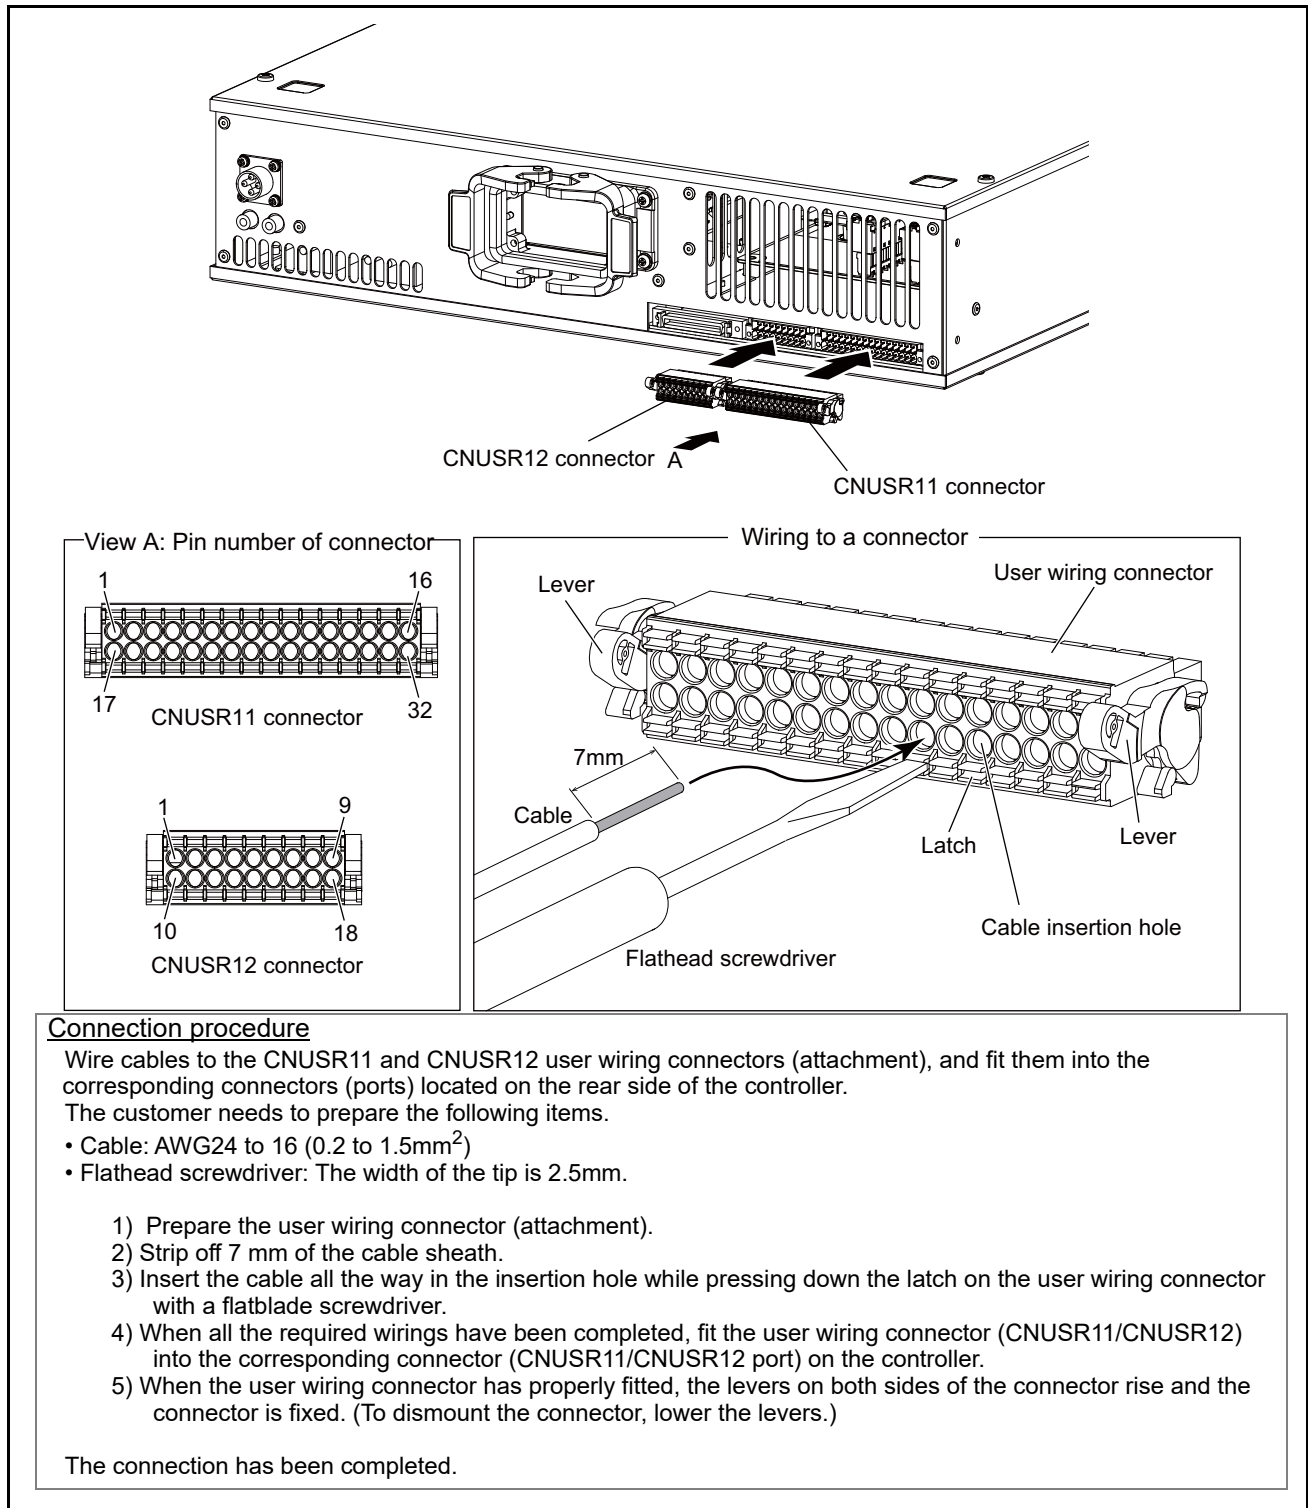

Fig.3-9: Wiring method to the user wiring connector
* Refer to Page 47 "Fig. 3-9: Wiring method to the user wiring connector" for more details about how to wire a connector.